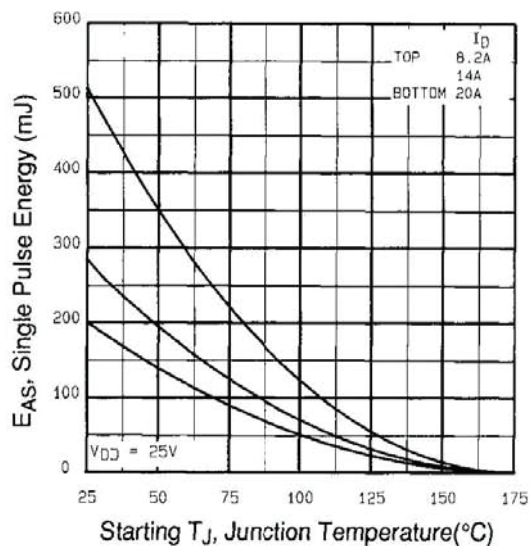

Fig. 12c - Maximum Avalanche Energy vs. Drain Current
- $V_{DD} = 25$ V, starting $T_J = 25$ °C, L = 583 μ H, $R_G = 25$ Ω , $I_{AS} = 20$ A (see fig. 12c).